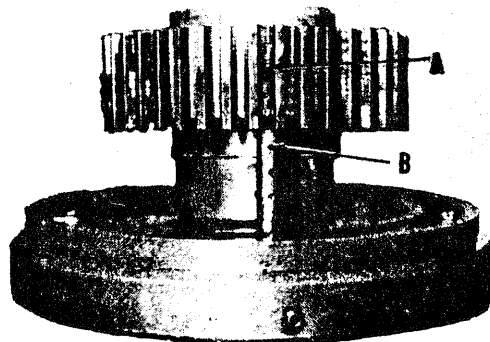

Figure 28
6. When assembled, the holes "A" in the clutch hub will be in line with the oil cooling valve "B" as shown in Figure 28.
7. Blanked out teeth on friction discs (10) must be in line.
9. Torque capscrews (1) with 70 ft. lbs., set screws (17) with 40 ft. lbs.